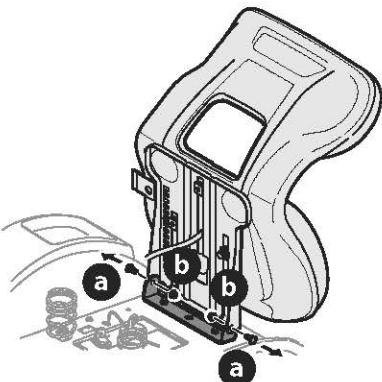

Figure 2
- Remove the two shoulder bolts (a) and flange lock nuts (b) in the seat pan (Figure 2).